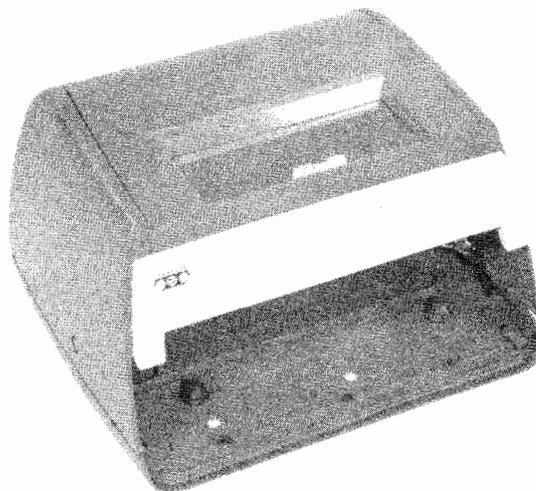

Figure 1 - Typing Unit Cover and Pan
1.01 This section provides adjustment procedures for the late design 37 typing unit cover and pan which has the front cover cut out for WECo 635R2 switches (Figure 1). It is re-issued to incorporate minor engineering changes and comments received on Issue 1. Since only a limited distribution was made on Issue 1, marginal arrows have been omitted. For similar information on early design units which have the front cover cut out for Licon 76-type switches, refer to Section 574-326-700TC.
1.05 References made to left or right, front or rear, top or bottom, etc, apply to the cover and pan in the normal position as viewed by the operator in front of the unit, unless specifically stated otherwise (Figure 1).